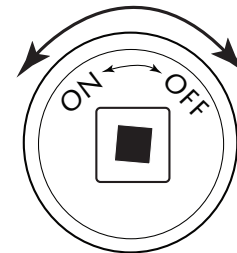

Fig. 8 Key Valve Face
1. Insert key into shut-off valve and secure into square end (see Figs 8 - 10).